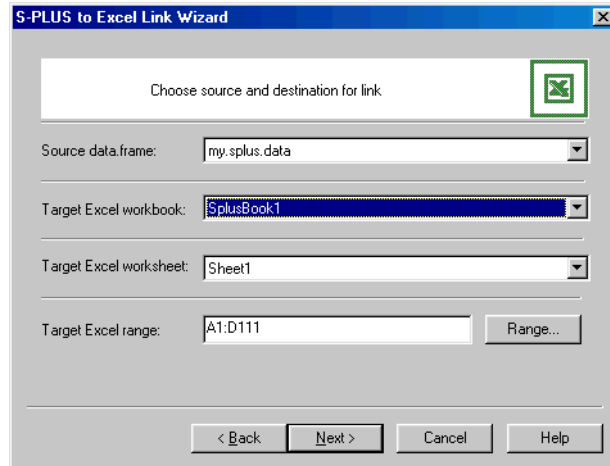

Figure 10.8: *Specifying an Excel target in the wizard.*
4. As you can see in Figure 10.8, the **Source data.frame** field is automatically filled in with the name of the active data frame. Select your newly created Excel workbook from the **Target Excel Workbook** dropdown list; notice that the **Target Excel worksheet** and **Target Excel range** fields are automatically filled in.